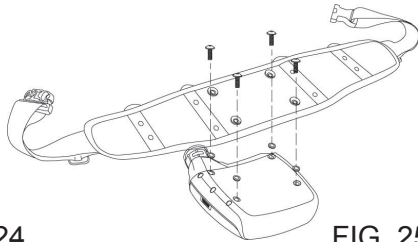

FIG. 25
- Connect with the blower by screw locking (See fig.25).